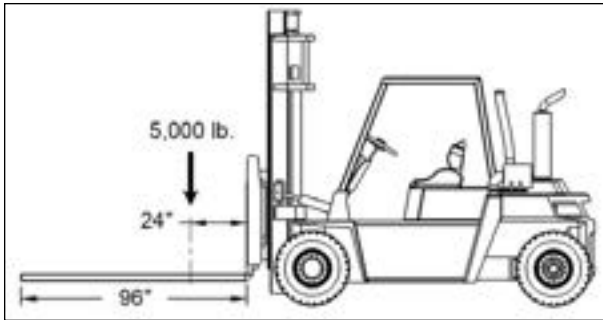

FIGURE 16: FORKLIFT MINIMAL LOAD AT 24"
- The forklift must have a minimal capacity of 5,000 lb. (2,268 kg) at 24" (610 mm) from the fork arm and 96" (2.44 m) length fork see Figure 16.